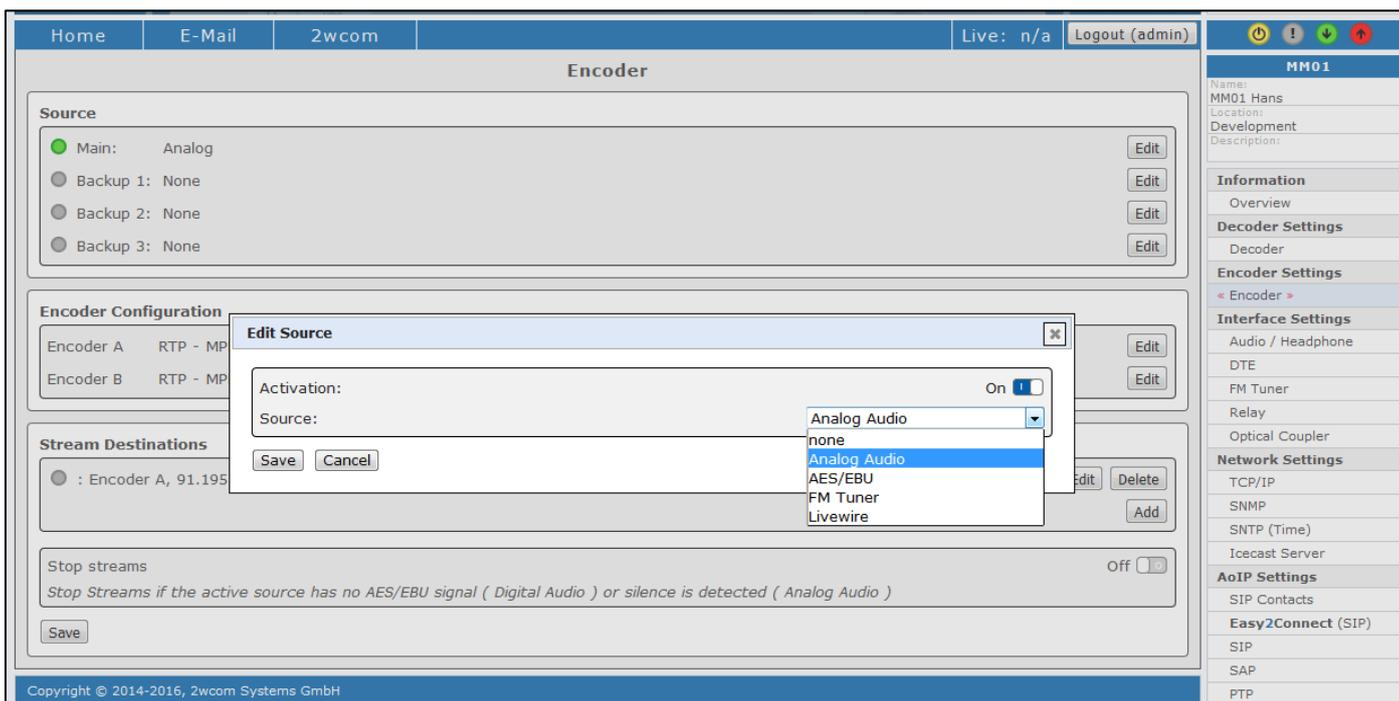

Figure 19: Encoder Settings – Input source
2. Click the **Edit** button in the field **Main** in the block "Source" to activate and configure the Main Source for encoding input. The page *Edit Source* appears (see Figure 19).
6. Analogously activate and configure backup sources in the field **Backup 1-3** (see Figure 19)